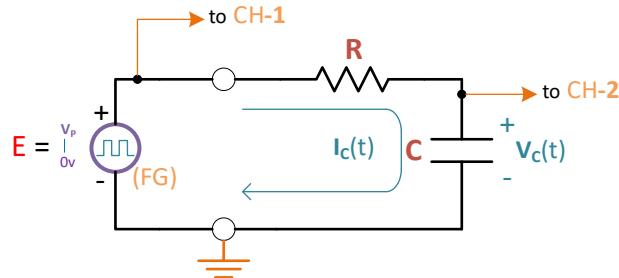

Figure 2.0b: R-C circuit with square-wave input source
To construct and simulate the circuit of **Figure 2.0b** on MultiSIM, use the following procedures to set up the circuit for proper measurements: -
- For **each** set of values provided for **R** and **C** in **Table 2.0**, construct the circuit of **Figure 2.0b** on MultiSIM, connecting the **FG** as the input source signal and using **CH-1** (or CH-A) of the Oscilloscope to monitor this input signal. Simultaneously, display the capacitor voltage,  $V_c(t)$  on **CH-2** (or CH-B) of the Oscilloscope. Use proper voltage and time scales on **CH-1** and **CH-2** inputs to adequately display the waveforms over two complete cycles on the scope screen. Capture and record the scope screen signals. **Note:** The Oscilloscope inputs (CH-1 & CH-2) should be set for **DC-coupled mode** to retain the critical DC information of the waveforms.
- Construct the circuit in **Figure 2.0b** on your breadboard using the first set of **R-C** values in **Table 2.0**, and set up the appropriate connections to the **FG** and Oscilloscope. Display simultaneously the **FG** source voltage waveform on **CH-1** of the Oscilloscope, and the voltage across the capacitor,  **$V_c(t)$**  on **CH-2**. Set appropriate vertical voltage-scale for **CH-1** and **CH-2** respectively to ensure both waveforms are optimized for the Oscilloscope display.
**Table 4.0:** In-Lab experiment results of the circuit in Figure 2.0b
5. For the **R-C** circuit of **Figure 2.0b**, the Function Generator (**FG**) was assumed to be ideal, meaning that its output (source) resistance,  $R_S = 0\Omega$ . In reality, the **FG** has  $R_S = 50\Omega$  as depicted below, and so if one takes this into account then what percentage error does  $R_S$  introduce to the intended (theoretical) time-constants ( $\tau$ ) presented in **Table 2.0**? Can this measurement error be considered negligible? Why?